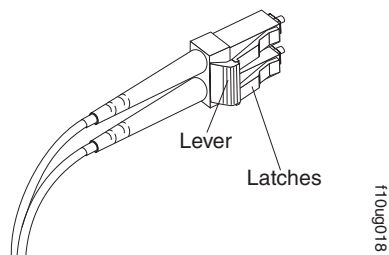

Figure 29. LC-LC fibre-channel cable lever and latches
1. On the end of the LC-LC cable that connects into the SFP or SFP+ module or host bus adapter, press down and hold the lever to release the latches, as shown in Figure 29.